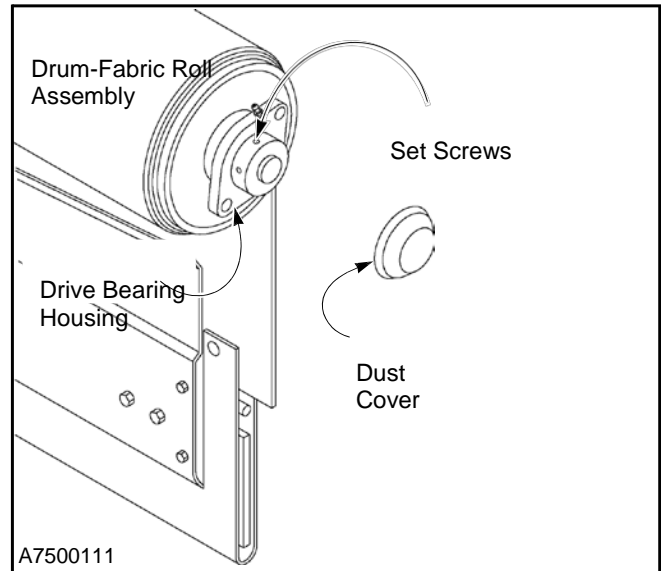

Figure 21
3. Remove the dust cover from the drive bearing and loosen the set screws on the end of the bearing. (See Figure 21.)